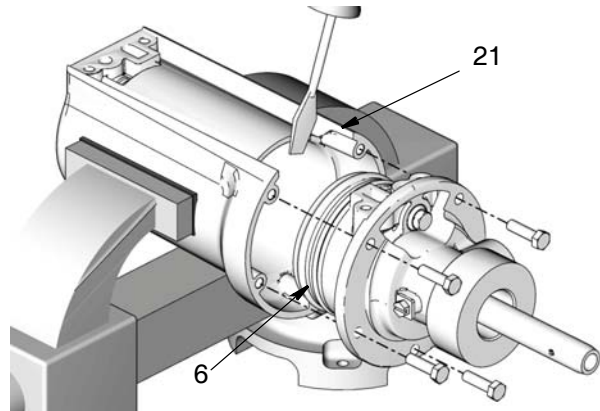

Fig. 10
- Using a 10 mm socket wrench, remove the 5 screws (4) from the flange (22).
- Using your hand, firmly grasp the flange (22) and remove the entire assembly from inside the air cylinder (21).
NOTE: Sliding the flat blade of a screw driver between the flange (22) and air cylinder (21) will help separate the two parts. Be careful not to damage the o-ring (6) (Fig. 10).